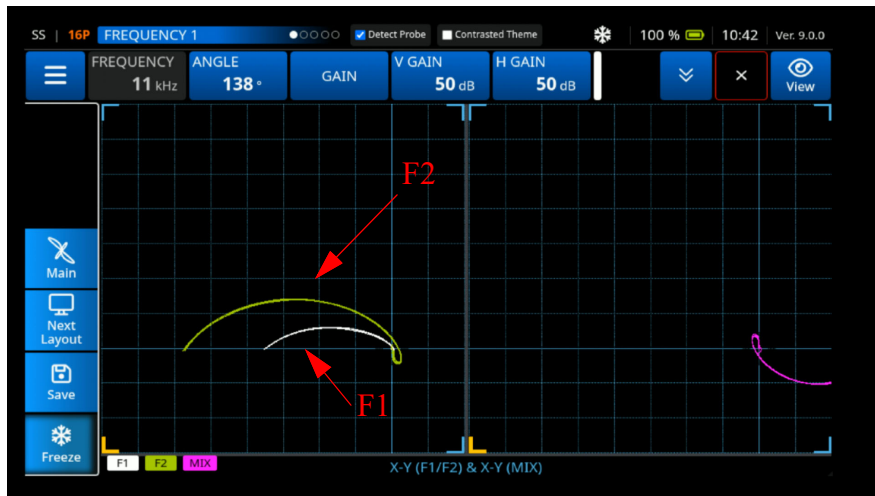

Figure 3-93 Adjusting the F1 & F2 Signals
4. Scan the first fastener and press **Freeze** (See Figure 3-93 on page 111).